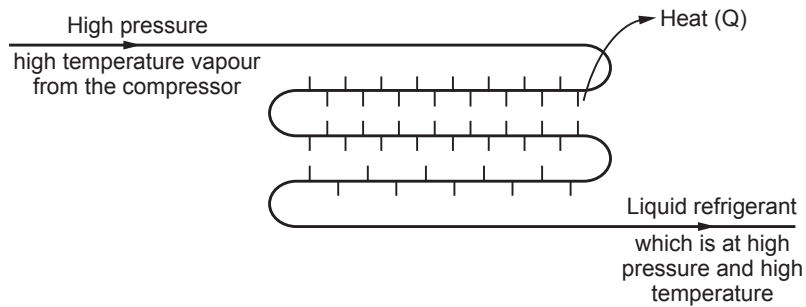

Fig. 5.3 Mechanism of condensation
- The liquid refrigerant from the outlet of the condenser is stored in the vessel known as receiver. (Refer Fig. 5.3)